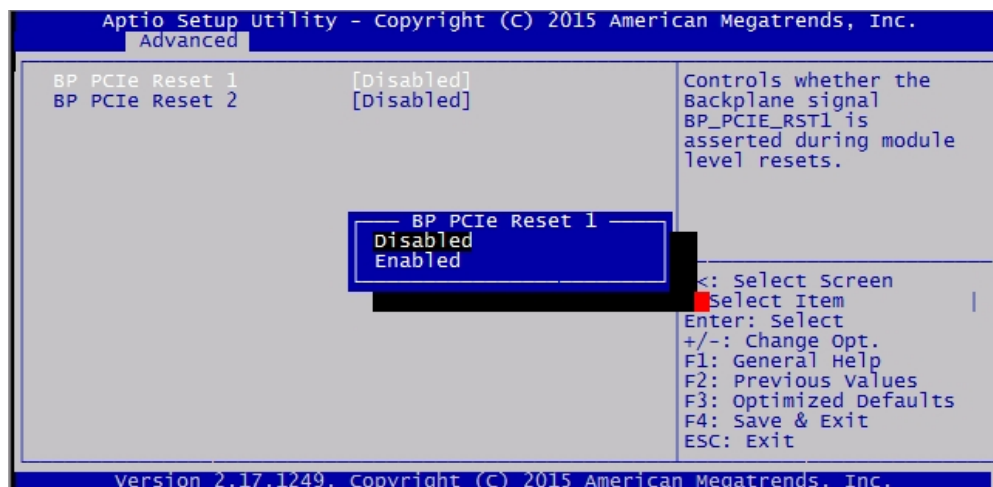

Figure 7-19: Selecting the BP PCIe Reset *Disabled/Enabled* option
2. In the Reset Enabled/Disabled screen, at right, use the up and down arrows to select the *Select Item* option, and select the port reset number applicable to your backplane configuration to display the *Disabled/Enabled* pop-up menu (Figure 7-19 on the facing page).